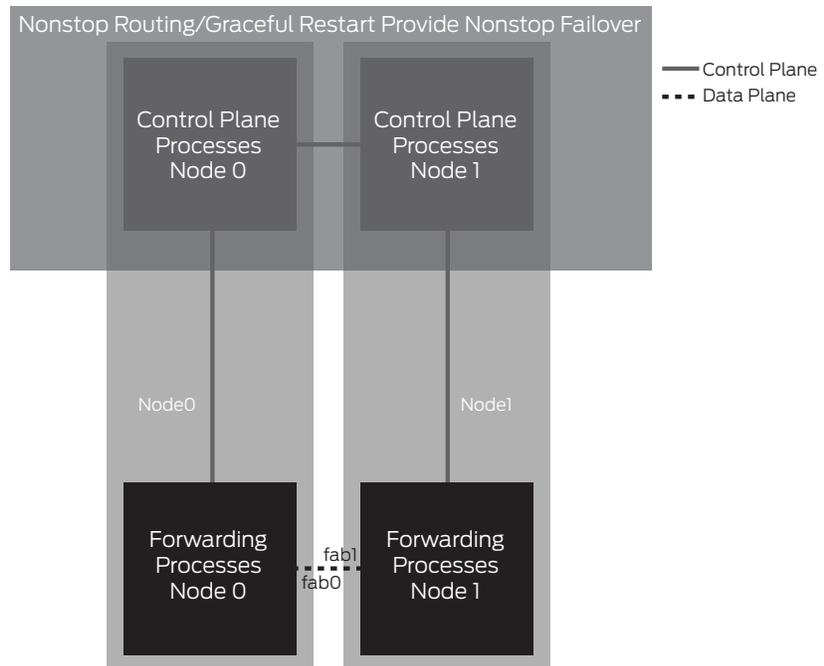

Figure 2: Device clustering
Control plane failover is provided in Junos OS by using graceful restart or nonstop active routing (NSR). In the former, the router signals a control plane failure to the rest of the network, while continuing to forward traffic on the data plane (since a control plane failure doesn't affect the forwarding plane). The rest of the network will continue to use the restarting router (for a grace period), while the restarting router forms new adjacencies. The backup RE in this scenario detects the entire configuration, but not the runtime state of the control plane. In a failure, the backup RE has to recalculate all routing/forwarding tables. Nonstop routing leverages state replication between Routing Engines. In this case, a restarting router handles control plane failures transparently, as the backup RE takes control of the router without any assistance from the rest of the network. Routing protocols handle data plane failures, while interface, PFE, or FPC failovers are handled by diverting traffic through other interfaces, which can be achieved by using conventional routing protocols, Virtual Router Redundancy Protocol (VRRP), or aggregate interfaces. When enabling a chassis cluster for J Series routers, Junos OS uses a similar model—less the nonstop routing state replication—to provide control plane redundancy as shown in Figure 2.
As seen in figure 2, fxp1 (the HA link) provides control plane communication between the nodes in the cluster, and fxp0 provides management access and is limited to host traffic only. Traffic received through the fxp0 interface will not be forwarded to any other interface in the system. Fab interfaces are used to exchange data plane information and traffic between devices. As opposed to the fxp0 and fxp1 interfaces, the fab interface can be mapped to any Ethernet interface in the system.
2. Define the interfaces used for the fab connection. These interfaces must be connected back to back, or through a Layer 2 infrastructure, as shown in Figure 2. As expected, fab0 is the fabric interface of node0, while fab1 is the fabric interface of node1.